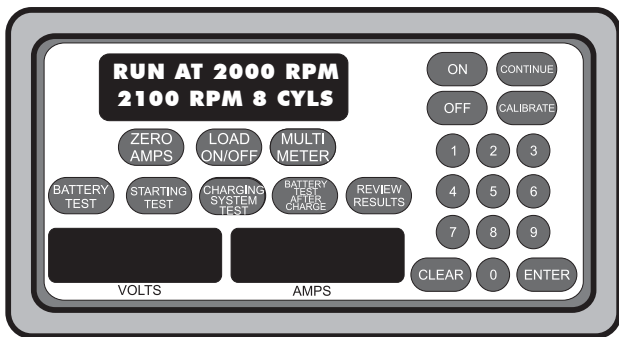

Figure 15
3. The top line of the display reads “RUN AT 2000 RPM” (see Figure 15). Set the engine speed to at least 2000 RPM. When the computer detects RPM around 2000, the display flashes “MAINTAIN 2000 RPM.”